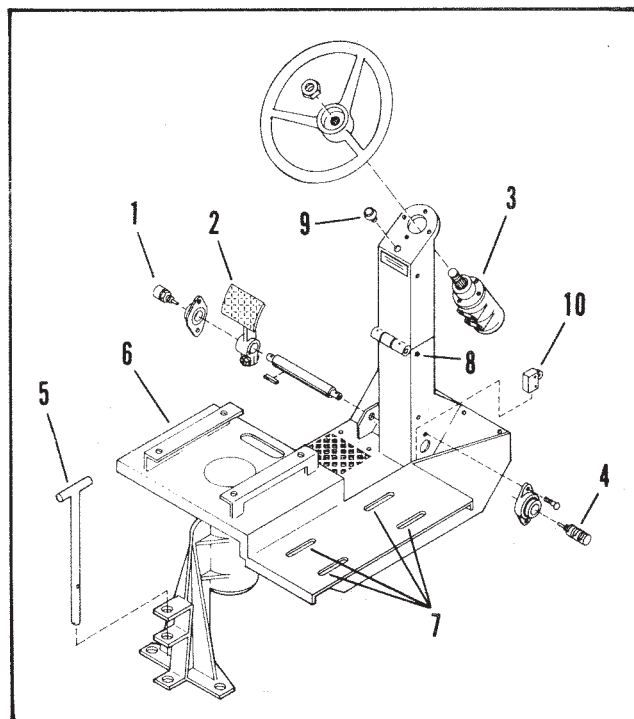

Figure 40. Override Pedal Adjustment
4. Retract the lock pin at the rear of the seat (Fig. 40).
(Fig. 40, Ref. 1)
(Fig. 40, Ref. 4)